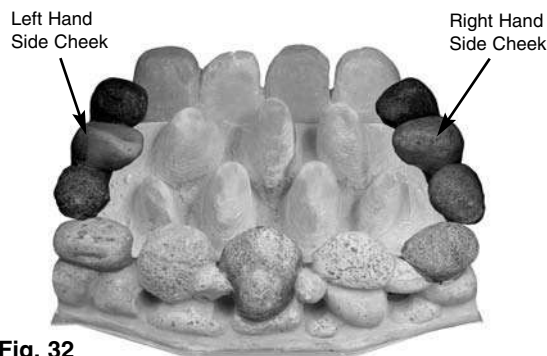

Fig. 32
4. Place the side cheeks into position, making sure they are positioned either side of the fuel bed and the overhang is at the front. The outside edge should be in contact with the radiant box ceramic liner. Ensure that the lower part of the side cheeks sit on the front pebble set and are in front of the rear pebble set (Fig. 32).